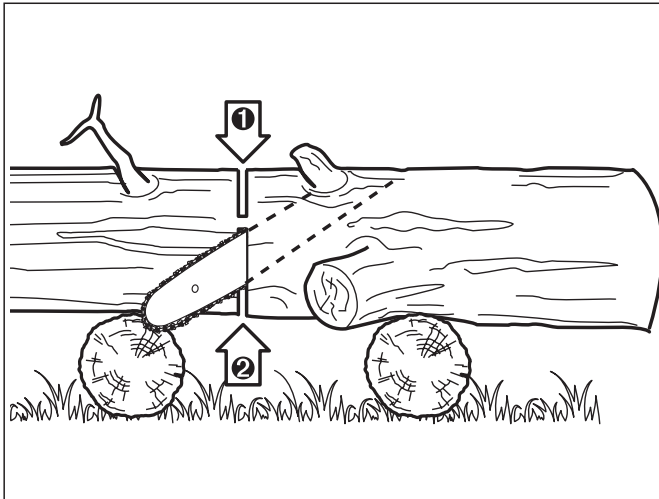

Fig. 26
3. When the log is supported on both ends, cut 1/3 the diameter from the top (overbuck). Then make the finished cut by underbucking the lower 2/3 to meet the first cut(Fig.26).